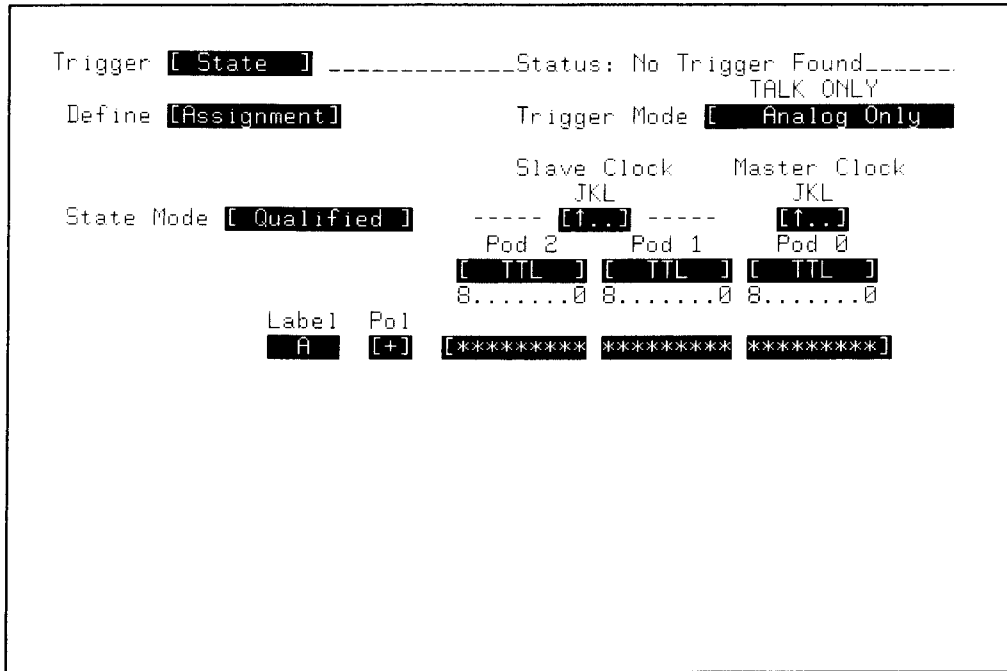

Figure 3-16. Example State Trigger Assignment Menu (Qualified Mode)
**State Trigger Assignment Menu (Figure 3-16 and 3-17).** The Assignment functions assigns information about the pod inputs and how they will be used.